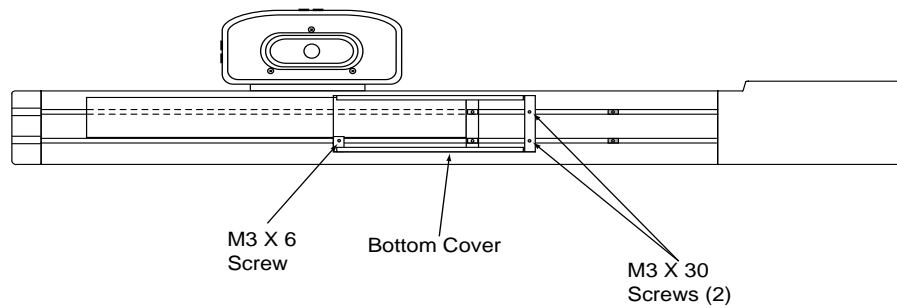

Figure 6-11. Bottom Cover Y-axis Cable Track
2. Attach the bottom cover to the Y-axis cable track by one M3 x 6 screw at the back of the cover into one of the screw sliders (see Figure 6-11).